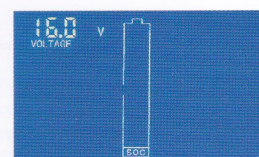

Figure 5: cut-off voltage setting interface (low bit)
- Step 1: After you set the full voltage, loner press the button until LCD shows the interface of Fig. 5, then release the button;